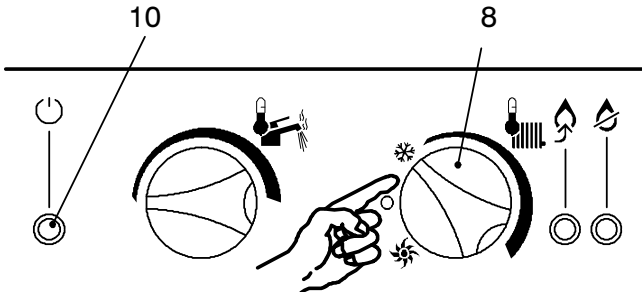
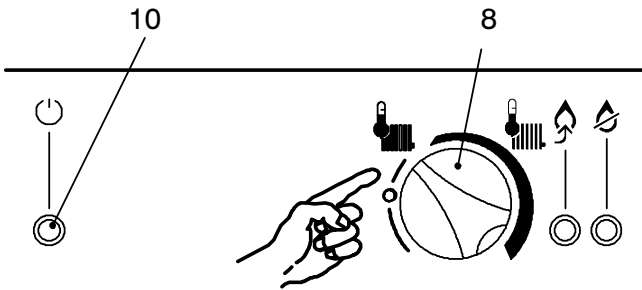

Fig. 2.4
Fig. 2.5
- 2 Turn on the electricity supply to the boiler, switching on the fused spur isolation switch. The appliance operation light 10 (Fig. 2.4) will flash every 4 seconds (stand-by condition).
- 3 If the boiler is to be used for c.h. and d.h.w. position the function selector 8 as in Fig. 2.4. (combi) or in Fig. 2.5 (c.h. only). The appliance operation light 10 will flash every 2 seconds (operating boiler).